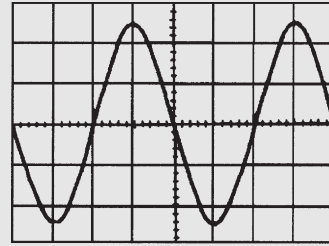

Figure 10.19
**Problem 9.** A sinusoidal voltage trace displayed by an oscilloscope is shown in Fig. 10.19. If the ‘time/cm’ switch is on 500 μs/cm and the ‘volts/cm’ switch is on 5 V/cm, find, for the waveform, (a) the frequency, (b) the peak-to-peak voltage, (c) the amplitude, (d) the r.m.s. value.